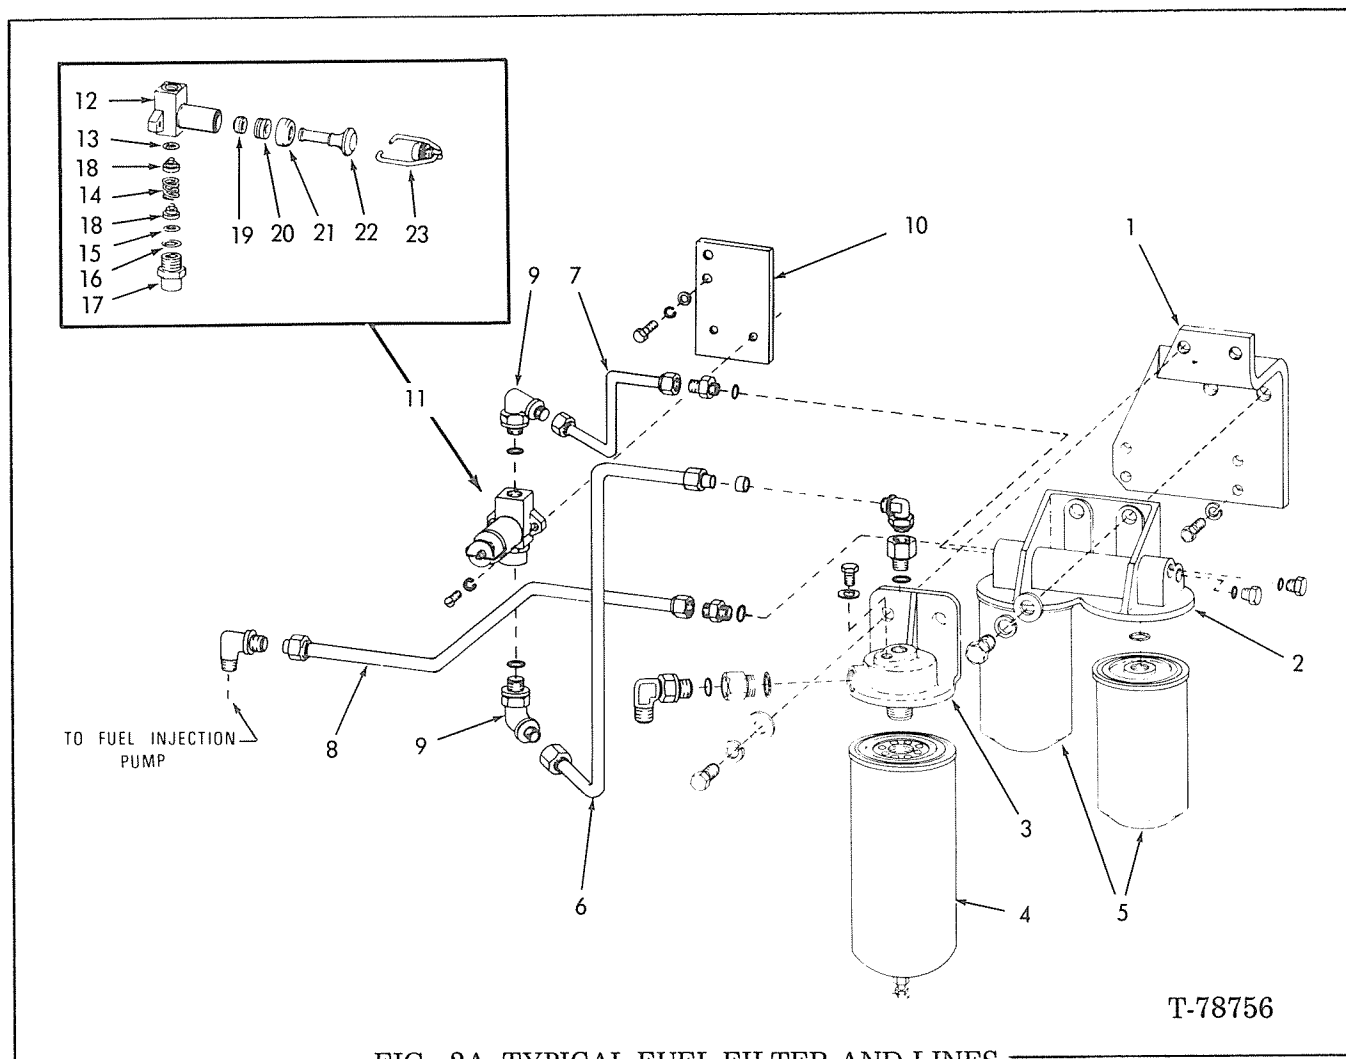

FIG. 2A TYPICAL FUEL FILTER AND LINES
Refer to FIG. 2A. The water separator (4) and fuel filter elements (5) are disposable. The water separator is equipped with a drain cock to drain accumulated water.